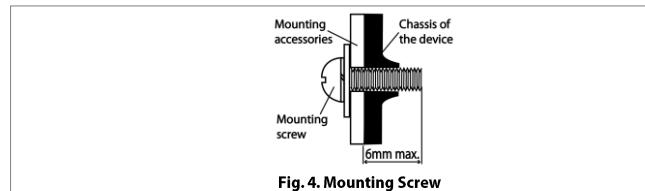

Fig. 4. Mounting Screw
- Refer to Fig. 4.: Recommended mounting tightening torque : 4-8Kgf.cm